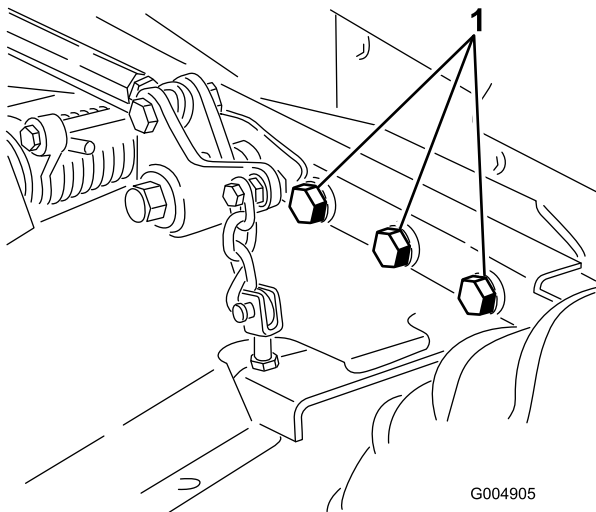

Figure 77
4. Check all fasteners for looseness and tighten them as necessary. Especially torque the 6 bolts securing the mower deck frame to the traction unit (Figure 77) to 359 N-m (265 ft-lb).